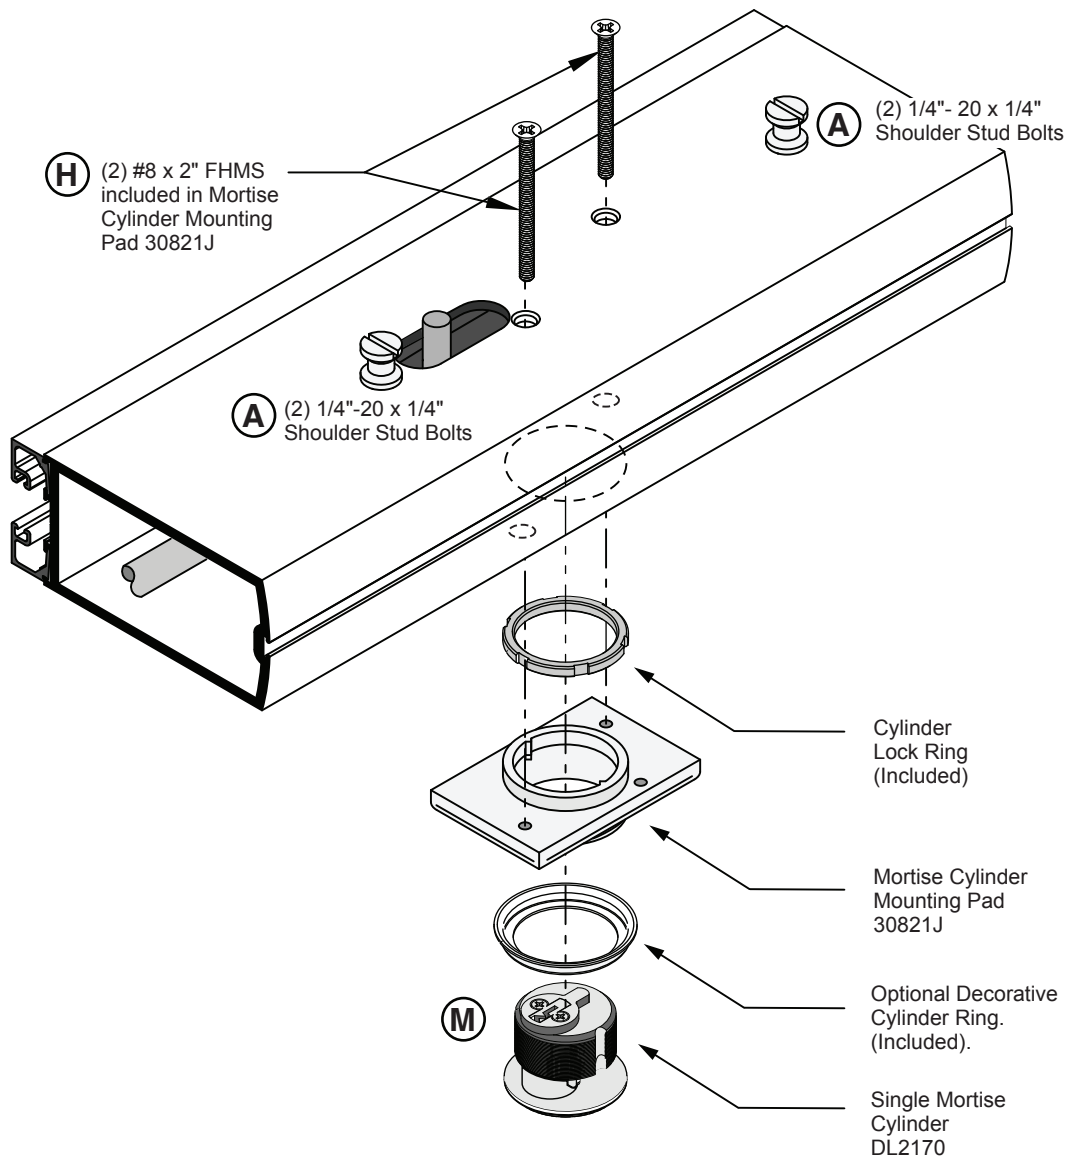

FIG. 11
1. Insert (M) Mortise DL2170 into Mortise Cylinder Mounting Pad 30821J and secure with Cylinder Lock Ring (Included) (Fig. 11).
2. Attach to exterior Active Stile with (2) (H) #8 x 2" FHMS.